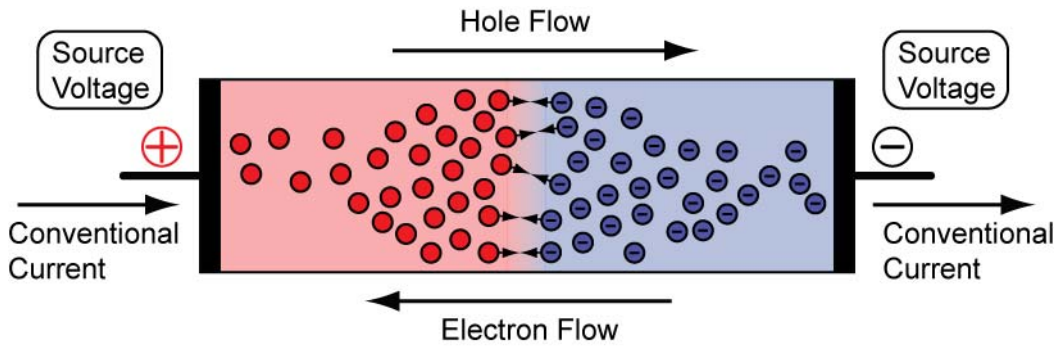

Figure 6: Current Flows when the p-n Junction Diode is Forward Biased
- When a diode is forward biased, the electrons in the cathode and the holes in the anode (current carriers) are forced toward the p-n junction by the applied voltage. The electrons and holes then combine and current flows through the diode (Figure 6).